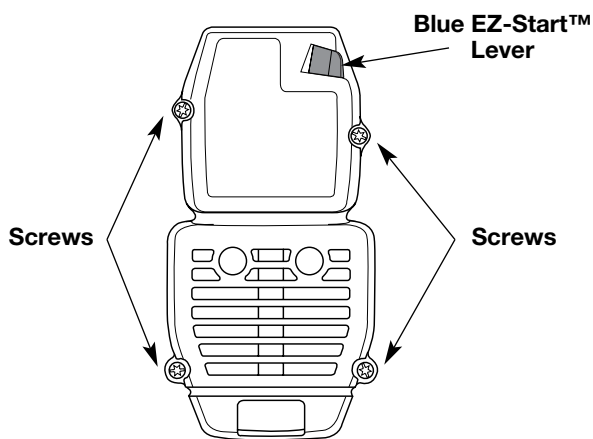

Fig. 25
1. Remove the four (4) screws securing the air filter/muffler cover (Fig. 25). Use a flat blade or T20 Torx bit screwdriver.
2. Insert the four (4) screws into the holes in the air filter/muffler cover (Fig. 25) and tighten.